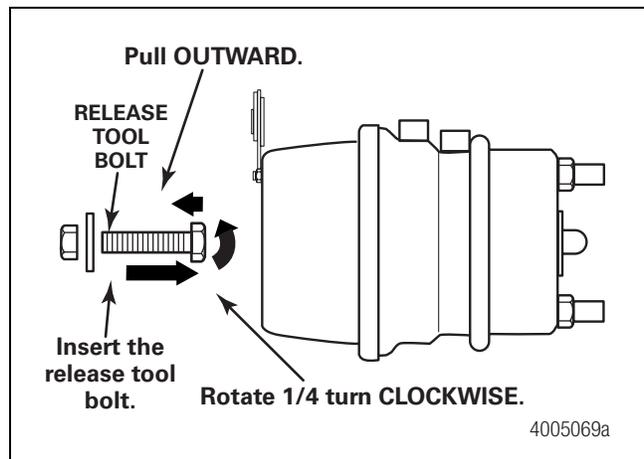

Figure 7.5
4. Insert the release tool bolt through the access hole, all the way into the pressure plate inside the spring housing. Do not attempt to mechanically release or cage the spring on any spring brake chamber if it shows signs of structural damage, significant corrosion or any other damage. Figure 7.5.
5. You must engage the release tool bolt on the pressure plate by turning the bolt one-quarter turn CLOCKWISE and pulling OUTWARD. If the release tool bolt is correctly engaged on the pressure plate, it will not turn more than one-quarter turn CLOCKWISE and will not pull OUTWARD more than 0.75-inch (19 mm). Figure 7.5.
5. You must engage the release tool bolt on the pressure plate by turning the bolt one-quarter turn **CLOCKWISE** and pulling **OUTWARD**. If the release bolt is correctly engaged on the pressure plate, it will not turn more than one-quarter turn **CLOCKWISE** and will not pull **OUTWARD** more than 0.75-inch (19 mm). Figure 7.5.